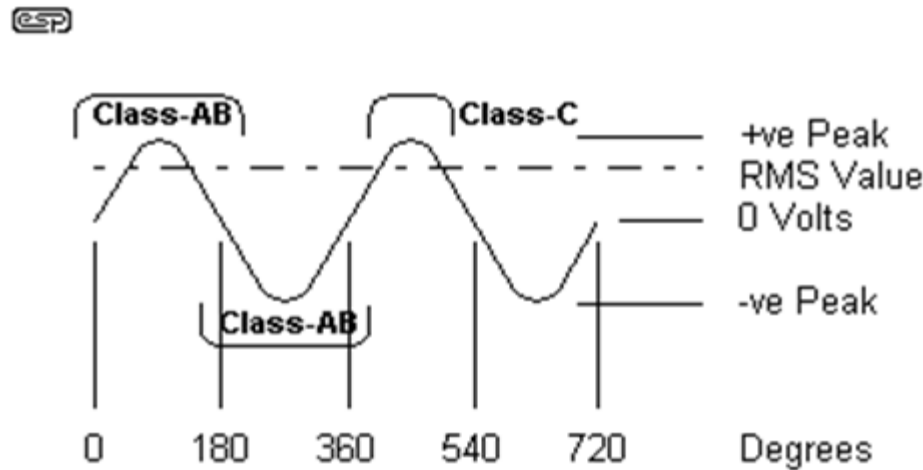

Figure 1 - The Sinewave Cycle
- **Class-A:** Output device(s) conduct through 360 degrees of input cycle (never switch off) - A single output device is possible. The device conducts for the entire waveform in Figure 1